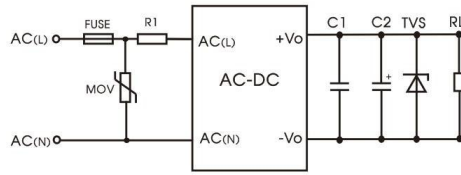

Fig. 1: Typical circuit diagram
② Unless otherwise specified, EMC performance indicators are tested according to typical application circuits (Fig. 1).